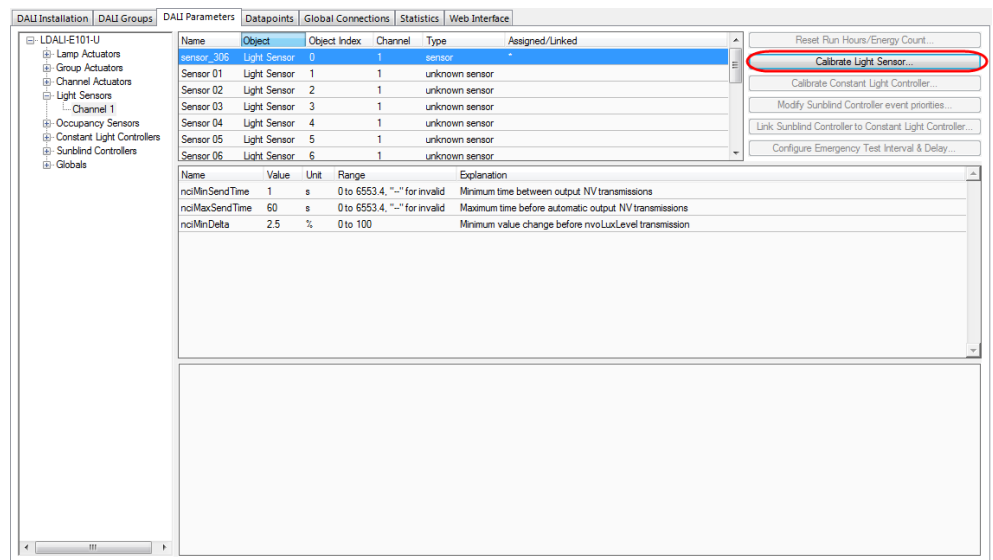
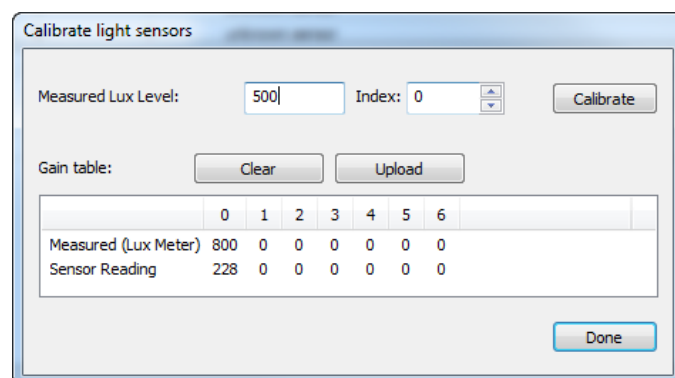

Figure 37: Parameterize Light Sensor.
Figure 38: Calibrate Light Sensor.
- Select the light sensor index 0 and click on the **Calibrate Light Sensor...** button as shown in Figure 37. The light sensor calibration window as shown in Figure 38 is displayed.